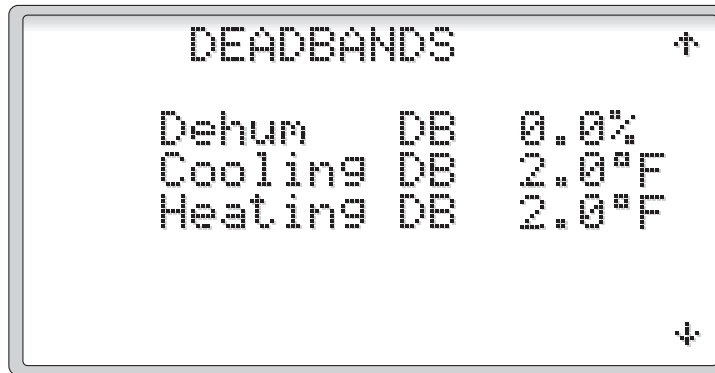

Figure 44
2.3.4.2 Tuning - Dead Bands (Figure 44)
Selecting TUNING from the SERVICE MENU displays the DEADBANDS screen, (Figure 44). The defaults settings for the deadbands can be modified on this screen. The Heating deadband value is subtracted from the Zone Temperature Setpoint from Section 2.2. This value is the heating set point that enables the aux heating output. It is also the heating set point for the Air Heating PID loop. The Cooling Deadband value is added to the Zone Temperature Setpoint. This value is the cooling set point. When the zone temperature exceeds this value, the refrigeration system is required to be used for zone cooling. The Dehum Deadband value is added to the Zone Relative Humidity Setpoint. This value is the dehumidification set point. When the zone relative humidity exceeds this value, the refrigeration system is required to be used for zone dehumidification.